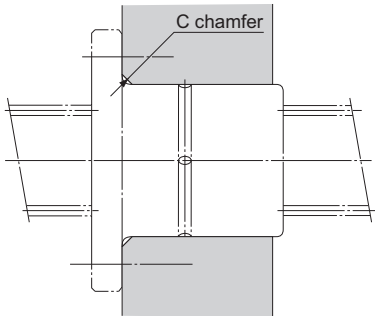

Fig.1
From the diagram of pV values (see Fig.1 on A-517), it is judged that there will be no abnormal wear if the sliding speed (V) is 13.5 m/min or below against the "p" value of 1.73 N/mm². Therefore, it is appropriate to select model DPM3560.